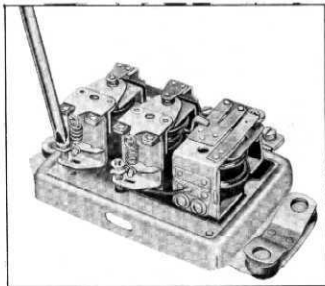

Fig. 33
10. To adjust voltage setting, remove regulator cover and turn adjusting screw (fig. 33) clockwise to increase voltage setting or counter-clockwise to decrease voltage setting.